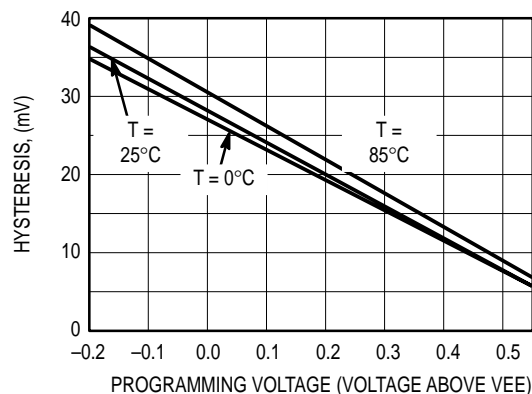

Figure 2. Hysteresis Programming Voltage
- The HYS pin programming characterization information is shown in Figure 2. The hysteresis values indicated in the data sheet are for the condition in which the voltage on the HYS pin is set to V_{EE} .
- Hysteresis skew (V_{skew}) is provided to indicate the offset of the hysteresis window. For example, at 25°C the nominal hysteresis value is 27 mV and the V_{skew} value indicates that the hysteresis was skewed from the reference level by 1 mV in the negative direction. Hence the hysteresis window ranged from 14 mV below the reference level to 13 mV above the reference level. All hysteresis measurements were determined using a reference voltage of 0 mV. The hysteresis skew values apply over the programming range shown in Figure 2.